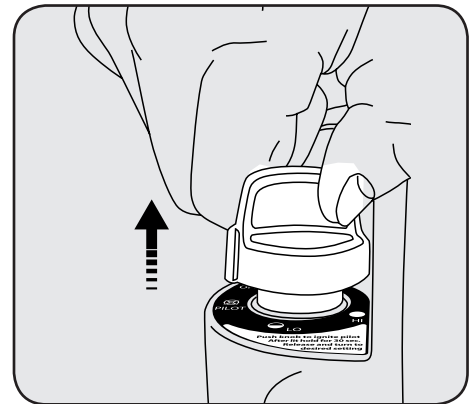

Figure 4
5. After pilot lights, hold down for 30 -60 seconds and then release knob. Knob should return to fully extended position. See Figure 4.
8. After pilot lights, hold down for 30-60 seconds and then release knob. Knob should return to fully extended position. See Figure 4. The pilot should remain lit.